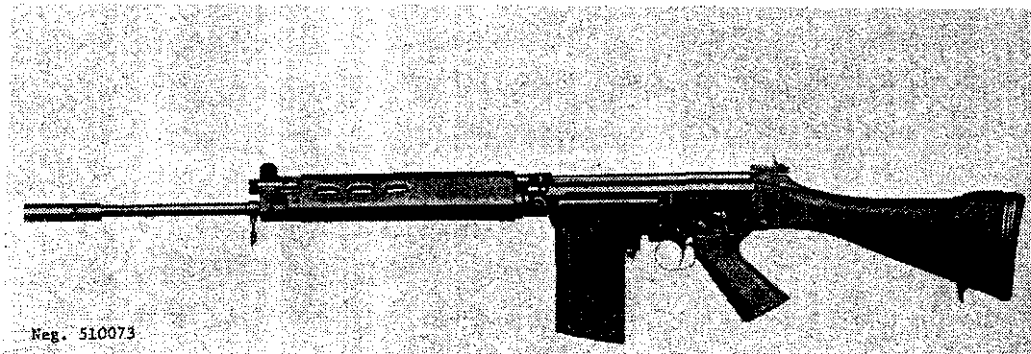

Figure 74. Belgium FN/FAL rifle.
a. The 7.62-mm FN/FAL rifle (fig 74) was developed by the Fabrique Nationale (FN) Arms Factory in Belgium. This gas-operated, selective-fire, magazine-fed, shoulder weapon is one of the most widely distributed rifles in the free world. It is produced in Belgium, Great Britain, Canada, Australia, India, Israel, Austria, and Argentina and, in addition, is used by the Netherlands, Luxembourg, New Zealand, Chile, Venezuela, Peru, Ecuador, Ireland, the Congo, West Germany, and Cuba. The FAL, obtained by commercial purchase or capture, is also often found in use by dissident groups.